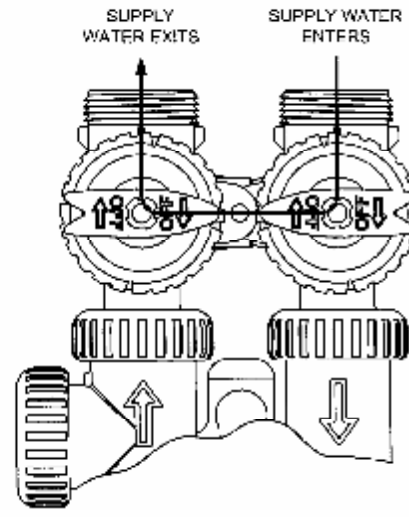

Figure 3
3. **Diagnostic Position:** The inlet handle points in the direction of flow and the outlet handle points to the centre of bypass valve, system water pressure is allowed to the control valve and the plumbing system while not allowing water to exit from the control valve to the plumbing.(Figure 3)